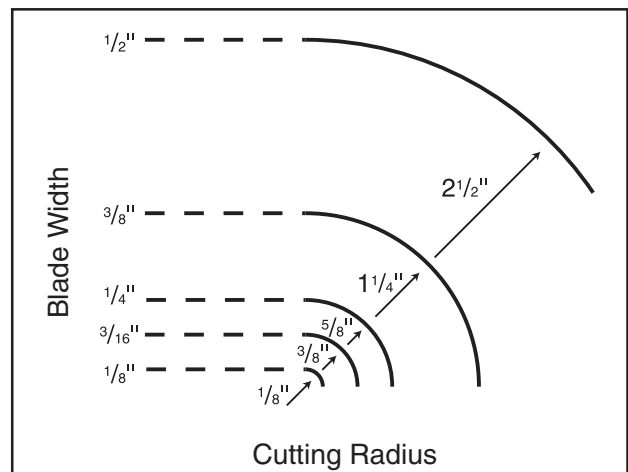

Figure 69. Blade width radii.
- **Curve Cutting:** Use the chart in **Figure 69** to determine the correct blade for curve cutting. Determine the smallest radius curve that will be cut on your workpiece and use the corresponding blade width.